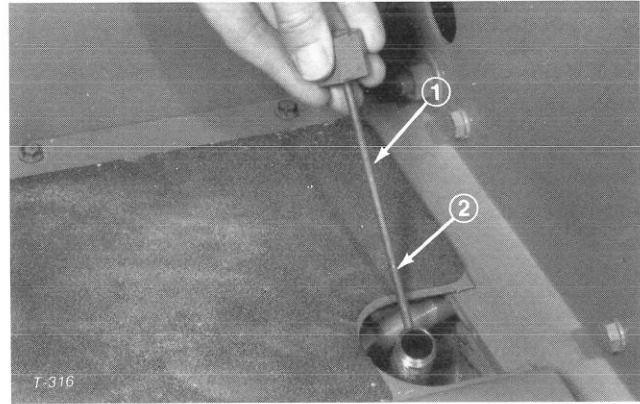

Figure 82
7. Remove dipstick from axle filler tube and fill axle to proper level (Fig. 82). Reinstall the dipstick.